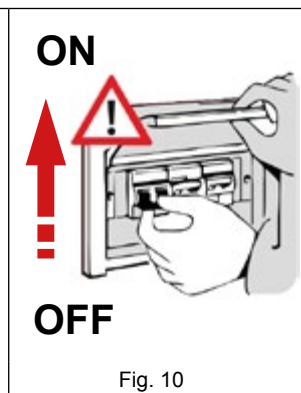

Fig. 10
- If present, set the thermal-magnetic circuit breaker located upstream of the power socket to the "ON" position (Fig. 10).